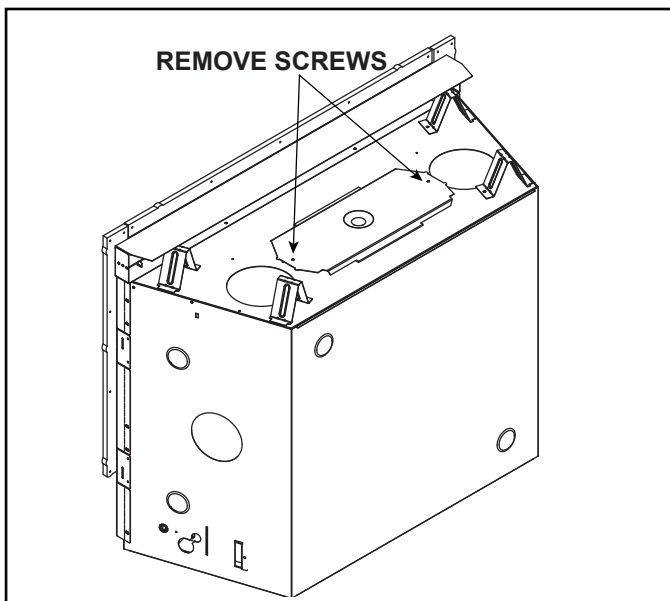

Figure 6.1 COSMO42-IFT-B / COSMO36-IFT-B
1. Remove two screws and discard. See Figure 6.1.